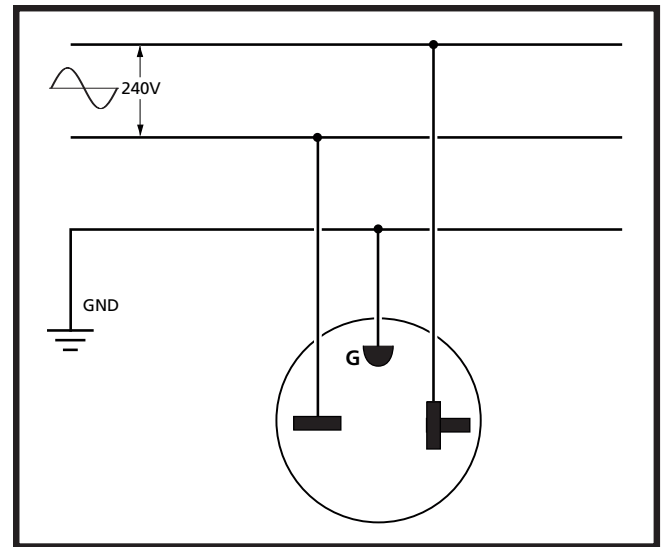

Figure 2-1 240VAC-20A Receptacle Wiring
**Grounded Electrical Power** - Operate this equipment only with a properly grounded electrical connection. Refer to the NEMA Type 6-20R wiring diagram in Figure 2-1 and receptacle photo in Figure 3-5. If there is any question about the grounding of your AC power, have it checked by a qualified electrician.
The power cord used on the Dual Servo Spin Welder has a two-blade, grounding type plug designed for 240 VAC at 20 Amps. It is designed to be plugged into a 240 VAC, 20 Amp NEMA type 6-20R receptacle as shown in Figure 2-1. Do not alter the plug or receptacle in any way.